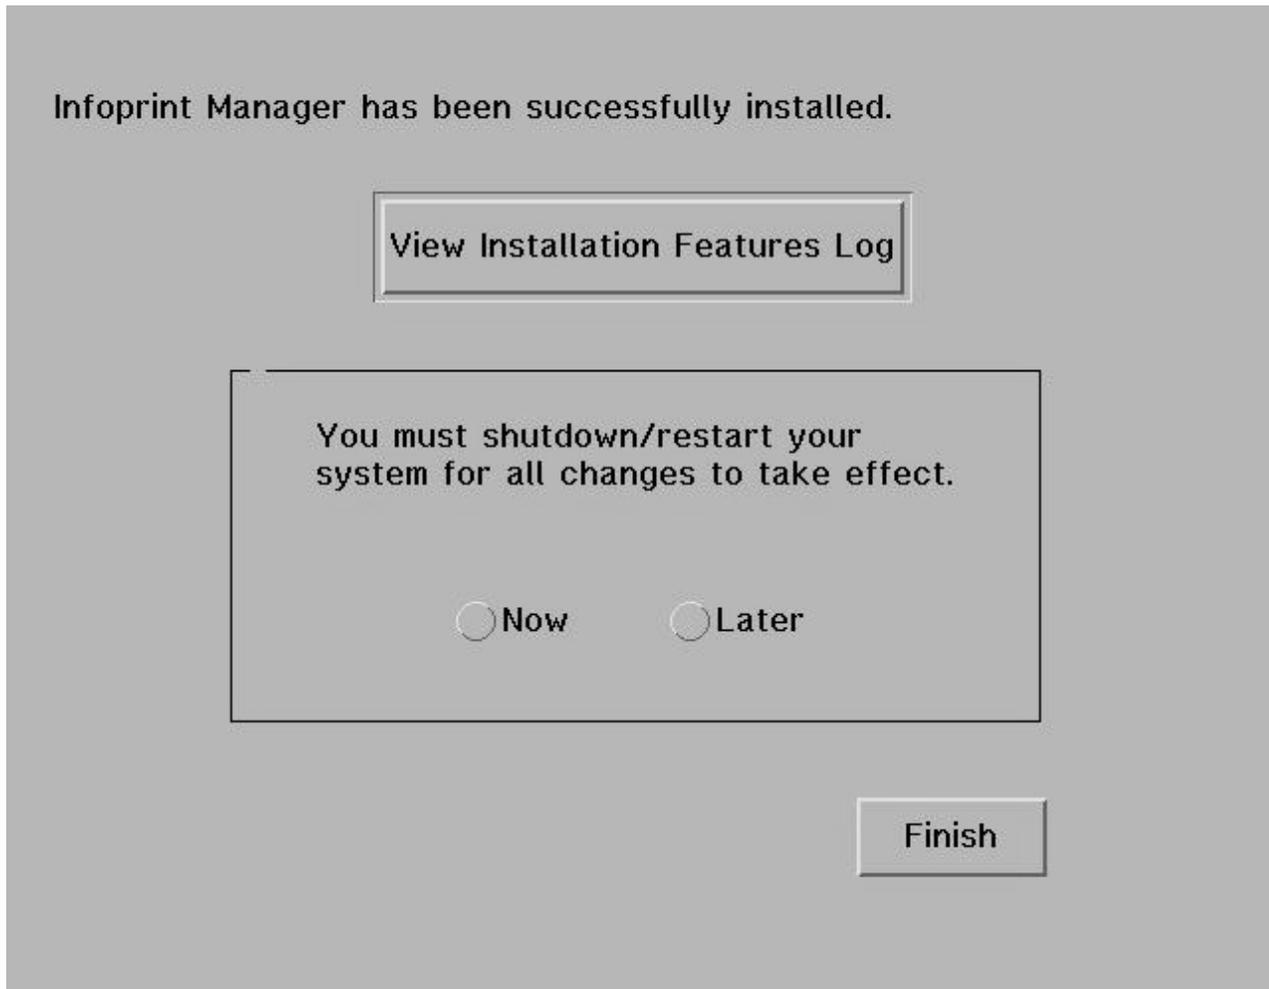

Figure 17. Final Infoprint Installer panel
10. Once all features have been installed, the Installer displays a panel (Figure 17) that gives you the option to display the full set of features installed.